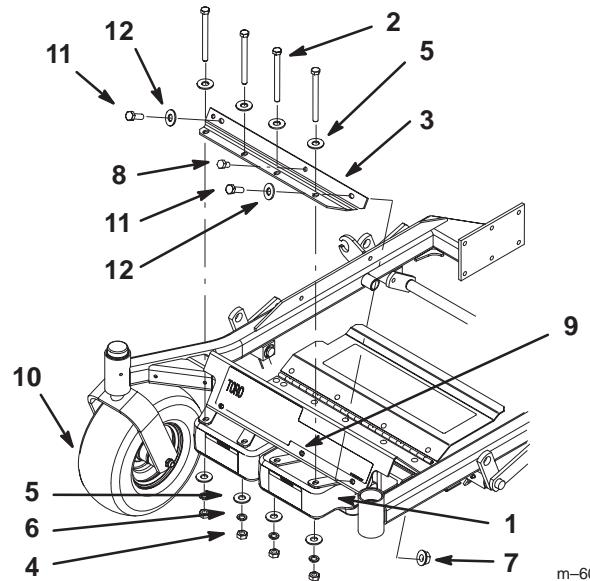
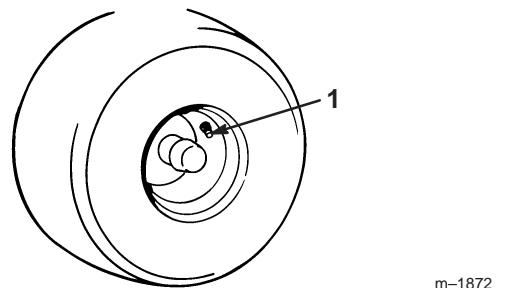

Figure 24
Figure 27
8. Using the bottom holes that hold the front floorpan, install the support plate to the front of the machine with 2 new bolts (5/16 x 1 in.), 2 existing flat washers (5/16 in.), and 2 existing flange nuts (5/16 in.) (Fig. 24).
9. Using the support plate as a template, drill one 5/16 in. hole into the front floorpan (Fig. 24).
10. Install a self tapping bolt (3/8 x 5/8 in.) into support plate and hole just drilled (Fig. 24).
11. Install the support plate to the brackets and weights with 4 bolts (3/8 x 4-1/2 in.), 8 flat washers (3/8 in.), 4 lock washers (3/8 in.), and 4 nuts (3/8 in.) (Fig. 24).
Check the air pressure in the front caster wheel (Fig. 24) and rear tires (Fig. 27). Use the following tires pressure when the bagger is installed.